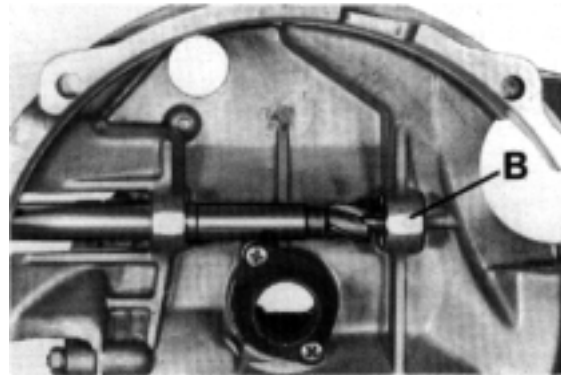

Figure 3
4. Cut bearing support B in Figure 3 with guide pin (9292-3), cutter (9292-1) and arbor/guide (9292-2) until cutter bottoms out (noticeable resistance).